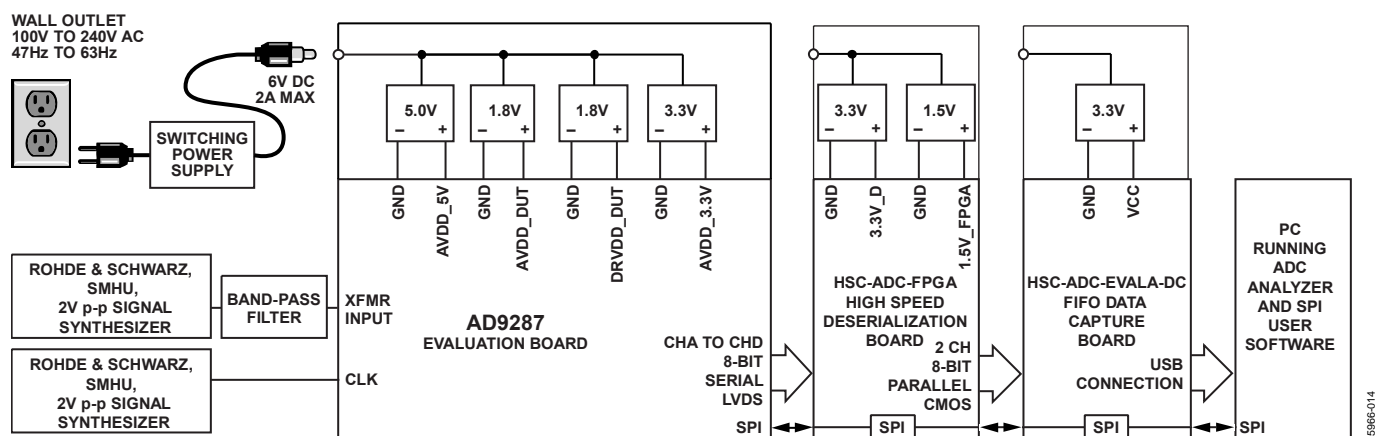
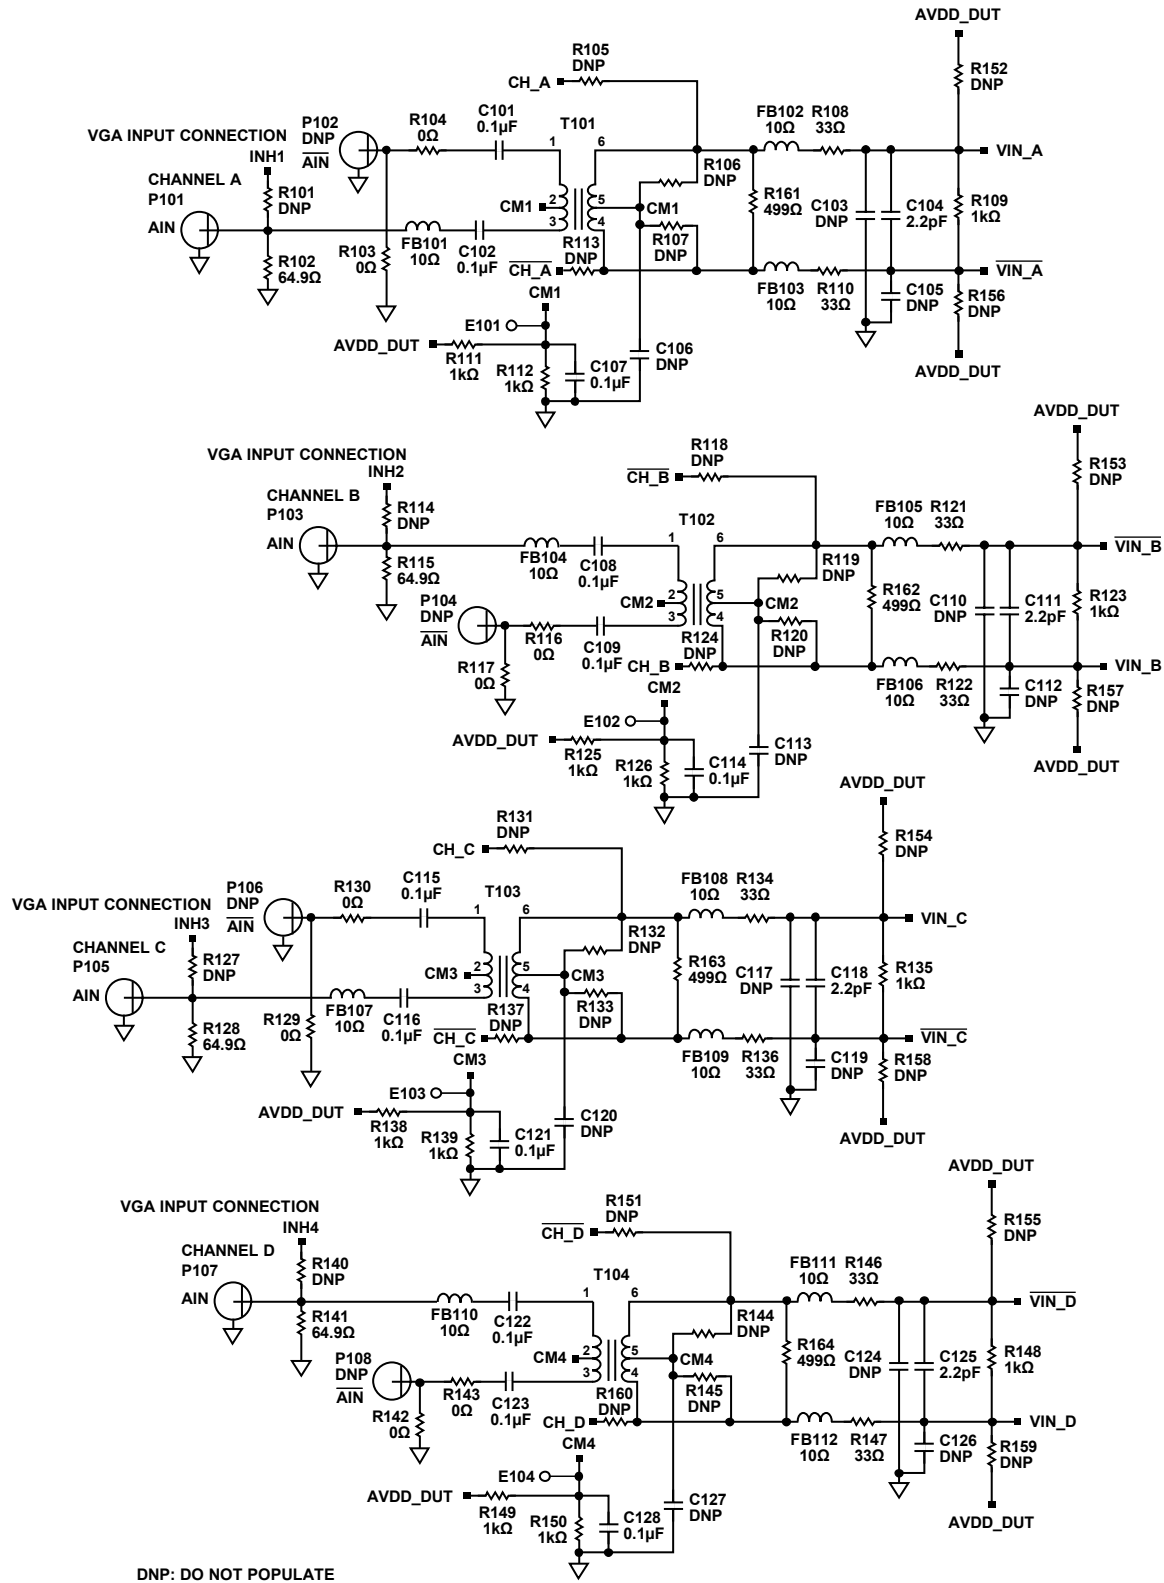
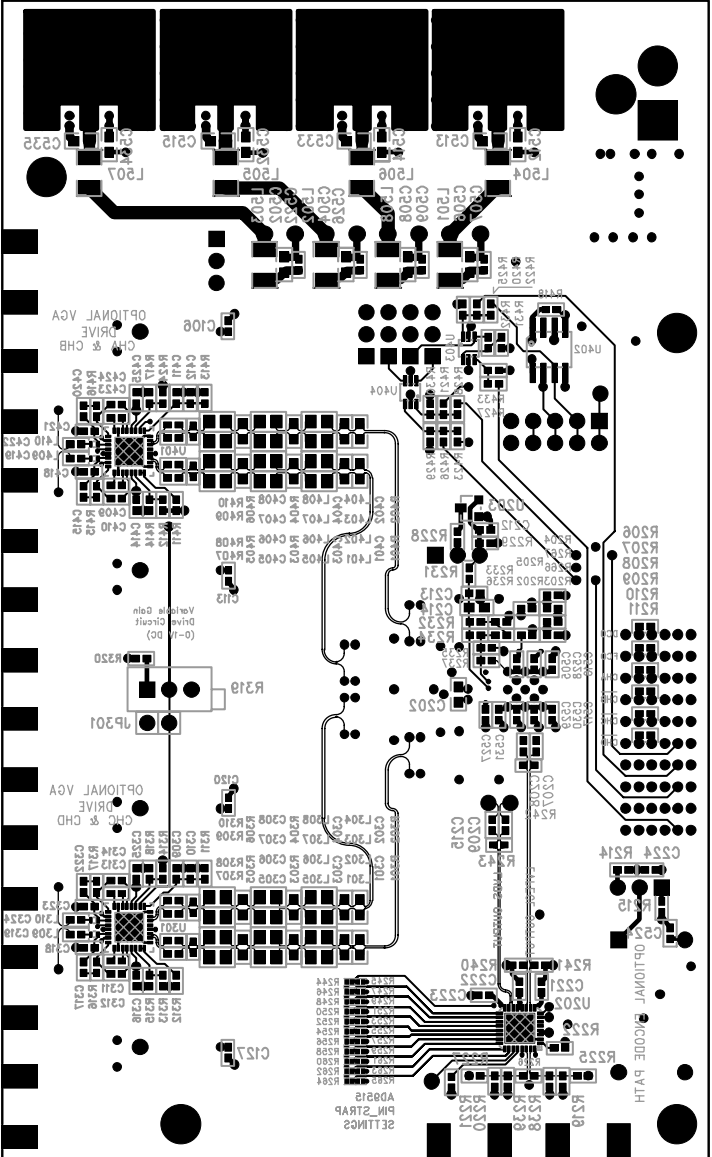

Figure 61. Evaluation Board Connection
Figure 63. Evaluation Board Schematic, DUT Analog Inputs
Figure 71. Evaluation Board Layout, Secondary Side (Mirrored Image)
The AD9287 evaluation board provides all of the support circuitry required to operate the ADC in its various modes and configurations. The converter can be driven differentially through a transformer (default) or through the AD8332 driver. The ADC can also be driven in a single-ended fashion. Separate power pins are provided to isolate the DUT from the AD8332 drive circuitry. Each input configuration can be selected by proper connection of various jumpers (see Figure 63 to Figure 67). Figure 61 shows the typical bench characterization setup used to evaluate the ac performance of the AD9287. It is critical that the signal sources used for the analog input and clock have very low phase noise (<1 ps rms jitter) to realize the optimum performance of the converter. Proper filtering of the analog input signal to remove harmonics and lower the integrated or broadband noise at the input is also necessary to achieve the specified noise performance.
See Figure 63 to Figure 71 for the complete schematics and layout diagrams that demonstrate the routing and grounding techniques that should be applied at the system level.
- **D+, D-:** If an alternative data capture method to the setup described in Figure 61 is used, optional receiver terminations, R206 to R211, can be installed next to the high speed back-plane connector.